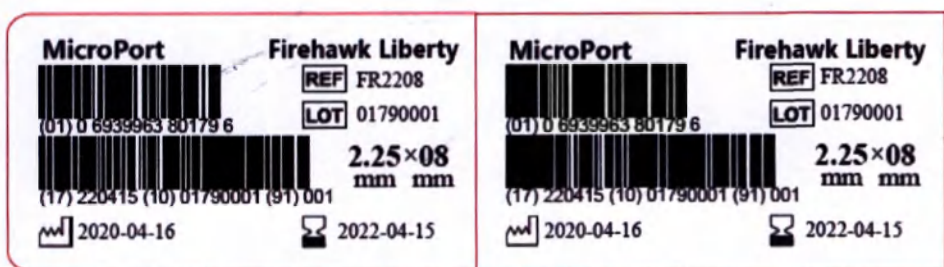

Figure 2. The layout of the sticker (is an integral part of the marking)
➤ The label of the inner bag, aluminum foil bag, consumer packaging is additionally equipped with six (6) stickers - adhesive recording labels for attachment to the medical history of the patient receiving the implant (see Figure 2). The stickers contain the following information: